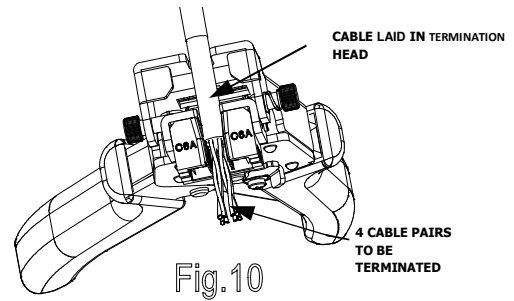

Fig.10
5.2.2 Place the prepared cable end in the slot of the Termination Head. Note: For C6A shielded cable do not trim the drain wire, straighten the drain wire and keep it free from the 4 pairs to be terminated, but available to coil around the cable sheath 3 times after termination. Position the end of the cable jacket near the bottom of the wire comb. (Fig. 10)